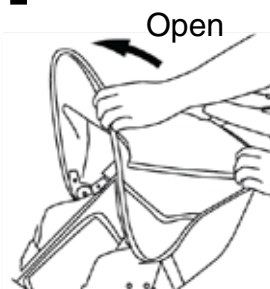
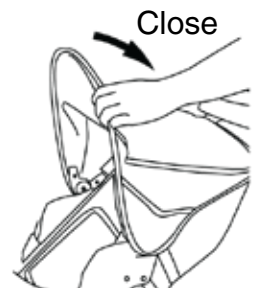
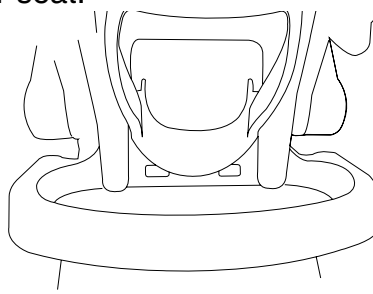
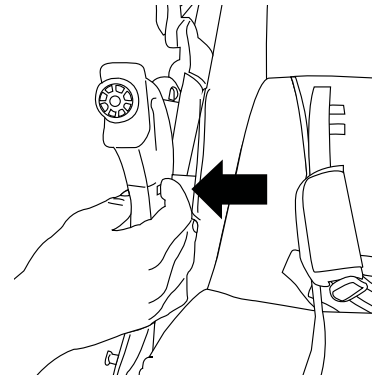

Fig. 5
Fig. 5A
Fig. 12A
Fig. 13
9. To open the canopy: pull forward on the front edge of the canopy until fully opened. (Fig. 5) To close canopy: push backward on front edge until canopy is all the way collapsed. (Fig. 5A)
19. To use the car seat feature, lock back wheels, close the canopy as described in the canopy section (Please see Page 7, Fig. 5A). Recline seat by squeezing both sides of cord housing as described in seat back positioning section (Please see Page 12, Fig. 11). Turn and lock grey latches (Fig. 12). Align car seat as shown in Fig. 12A. Angle feet first, while lowering car seat into a locked position on the child tray. Car seat is in a locked position when the car seat "CLICKS" into the child tray. Graco car seat locked position (Fig. 12B) Evenflo car seat locked position (Fig. 12C). Make sure car seat is locked in place by pulling upward on car seat. Make sure car seat is locked in place by pulling upward on car seat.
21. To use Chicco Keyfit 30 Car seat first, lock the back wheels, close the canopy as described in the canopy section (Please see Page 7, Fig. 5A). Recline seat by squeezing both sides of cord housing as described in seat back positioning section (Please see Page 12, Fig. 11) remove child tray (Please see Page 9, Fig. 8C) and child tray attachment arms. Press the release buttons located on the inner side of stroller arm. Press release button and pull upward at the same time until tray attachment arm is released (Fig. 13).